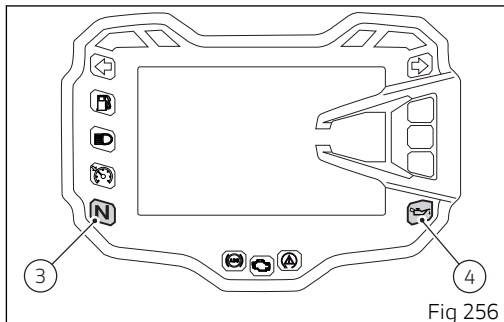

Fig 256
The red oil pressure warning light (4, Fig 256) should go out a few seconds after the engine has started. The engine will shut off by turning the red button (1) on the handlebar to RUN OFF. To turn on the "Hands free" system and all electronic onboard systems, refer to page 232 "Hands Free System".